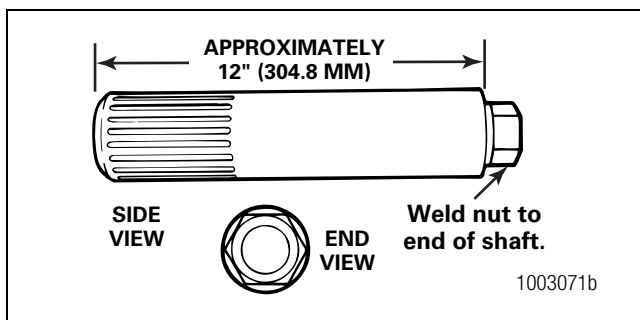

Figure 5.21
- Make a tool for checking the rotating resistance of the differential gears. You can use an axle shaft that matches the spline size of the differential side gear. Figure 5.21.